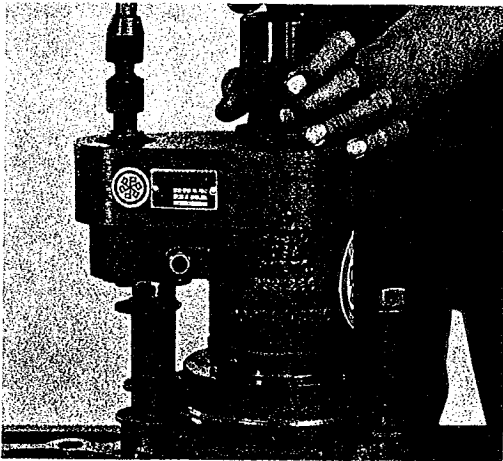

Fig. 10 Retracting Cutter Plate
11. Retract the cutter plate (10 or 31) by turning the needle valve knob counter-clockwise and pulling up. Turn needle valve knob clockwise to close valve to hold it in the up position. Remove the cutter (13) from the cutter plate and then remove the boring machine. (See Fig. 10).